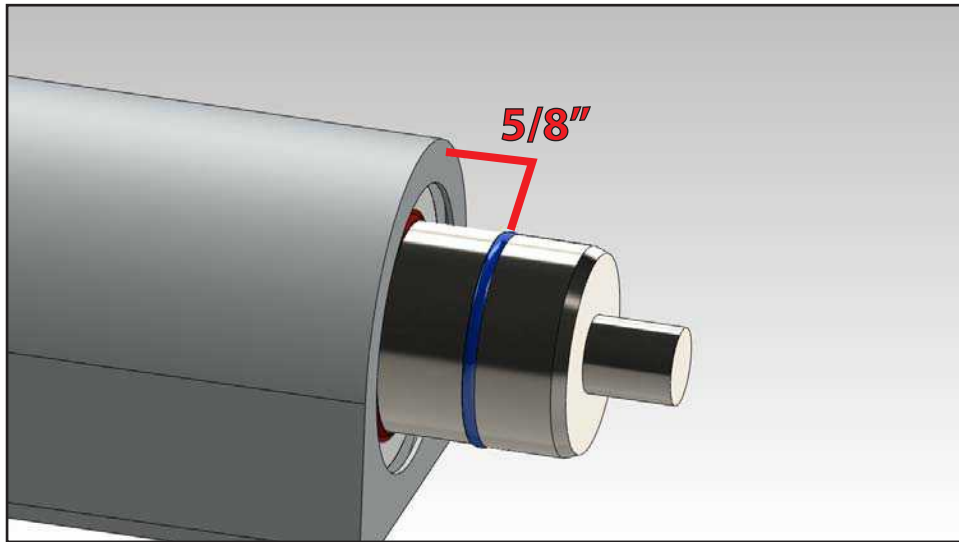

FIG. 3C
- This measurement should be approximately 5/8" to ensure the carriage has been re-engaged correctly. (FIG. 3C)